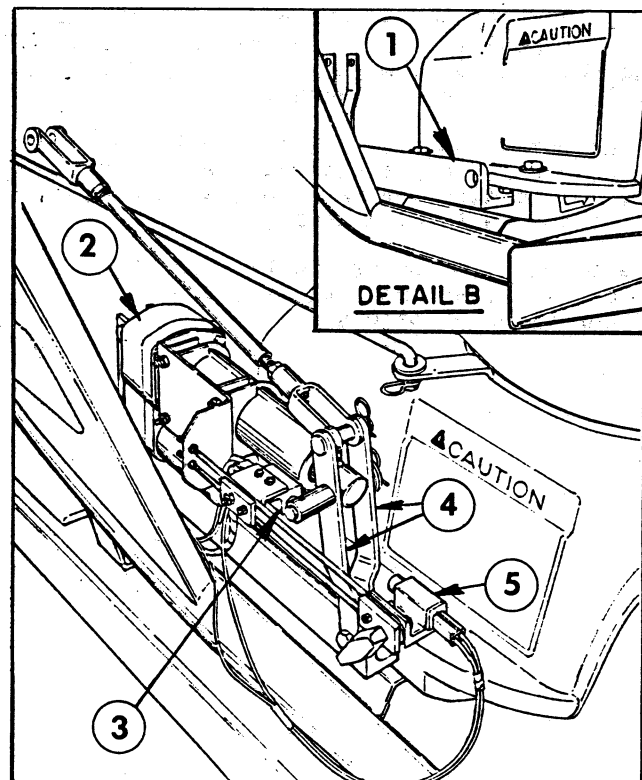

Figure 3
4. Re-install the Actuator Assembly between the front straps on the Mounting Angle as shown in Figure 3. Secure the Actuator to the Straps with a 1/2 x 1-1/2" screw, lock washer and nut.